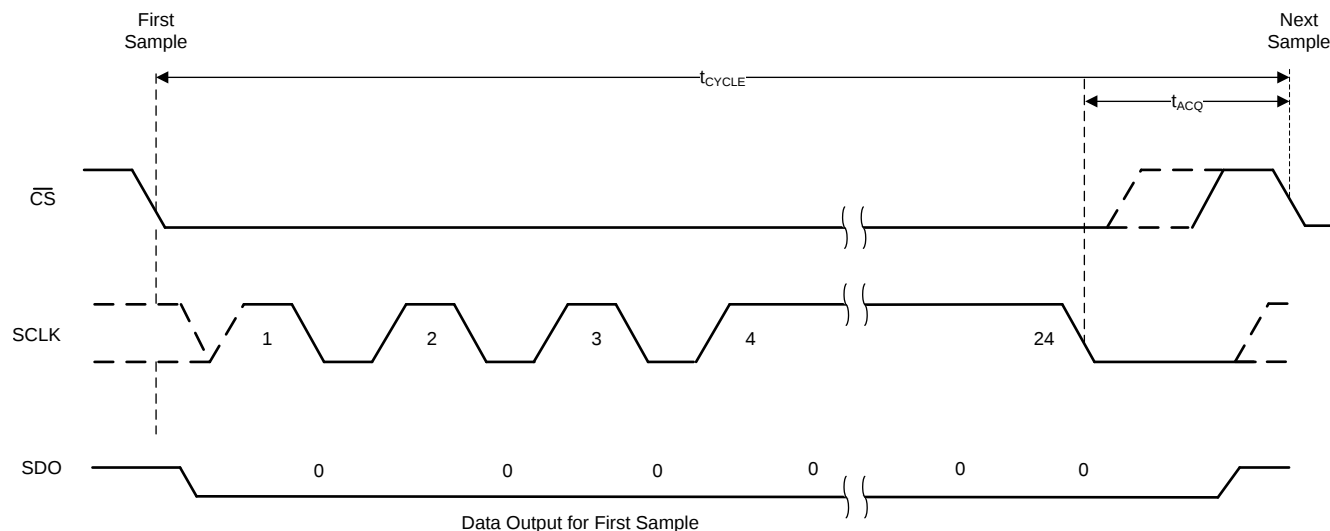
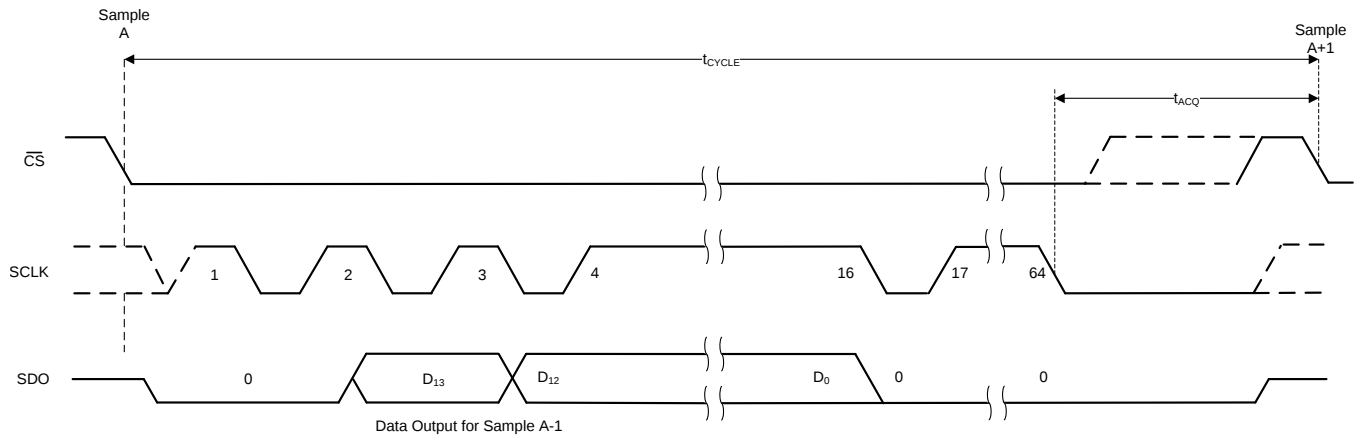

Figure 38. Timing for Offset Calibration on Power-Up
Figure 39. Timing for Offset Calibration During Normal Operation
The host controller must provide a serial transfer frame as described in Figure 38 or in Figure 39 to enter the OFFCAL state.
If the host controller starts the offset calibration process but then pulls the $\overline{CS}$ pin high before providing 24 SCLKs, then the offset calibration process is aborted and the device enters the ACQ state. Figure 38 and Table 3 provide the timing for offset calibration on power-up.
- (1) In addition to the timing specifications of Figure 38 and Table 3, the timing specifications described in Figure 2 and the Timing Requirements table are also applicable for offset calibration on power-up.
If the host controller provides more than 18 SCLKs but pulls the $\overline{CS}$ high before providing 64 SCLKs, then the offset calibration process is aborted and the device enters the ACQ state. Figure 39 and Table 4 provide the timing for offset calibration during normal operation.
- (1) In addition to the timing specifications of Figure 39 and Table 4, the timing specifications described in Figure 2 and the Timing Requirements table are also applicable for offset calibration during normal operation.